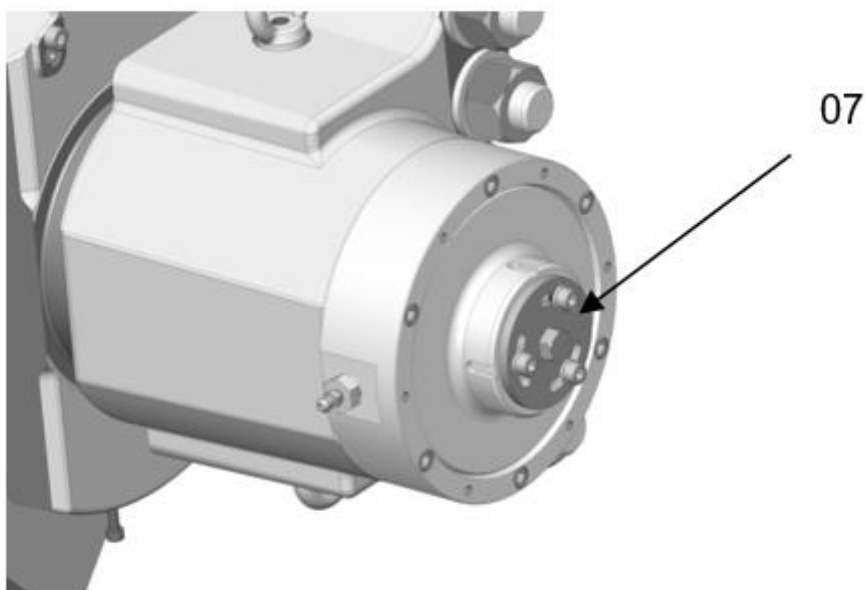

Fig. 5.3
4. Remove the locking washer **07** Fig. 5.3 by removing the 3 screws.